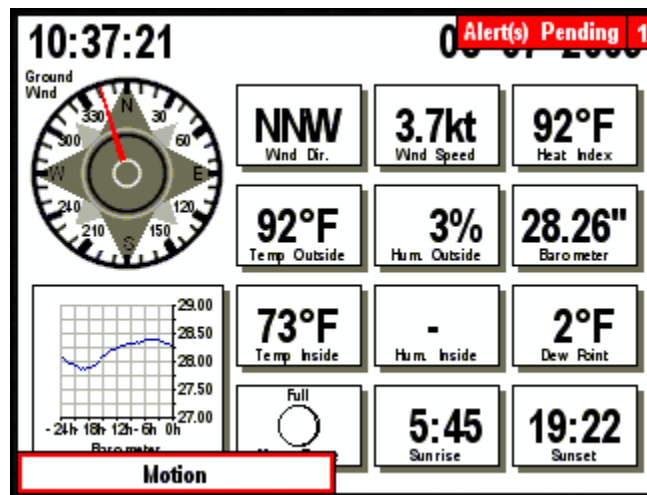

Figure 253 – Alert Display
**Awaiting Cancel** – The enclosing box will be outlined in red or yellow, as shown in Figure 253.
The Alert with the highest priority that requires accepting or cancelling is shown at the bottom left of the screen (see Figure 253). This Alert may easily be accepted or cancelled without changing screens by pressing the Power button .